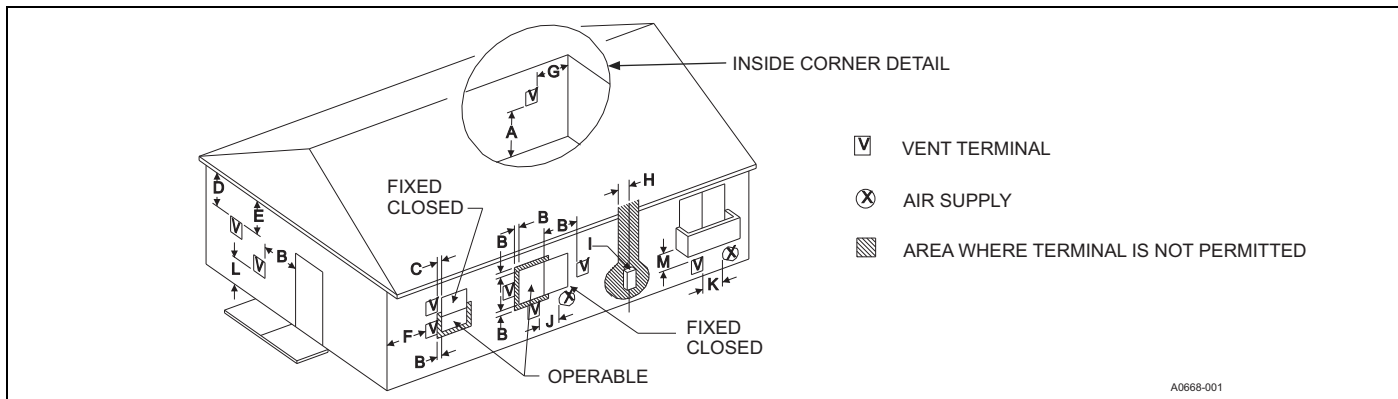
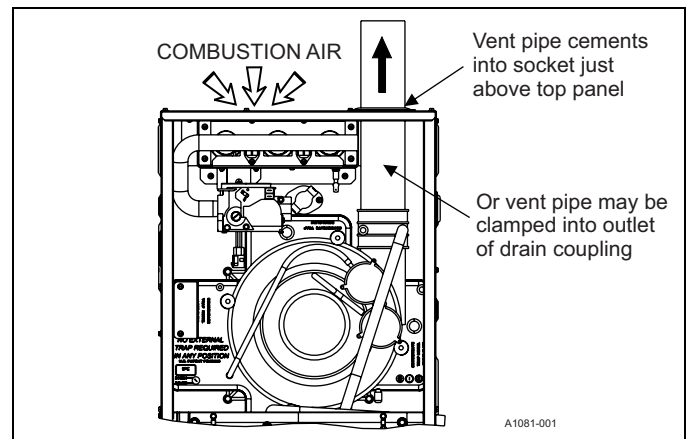

Figure 23: Home layout
Figure 31: Combustion airflow path through the furnace casing
- **Ambient combustion air:** Combustion air is supplied from the area surrounding the furnace through openings in the furnace casing. The combustion air and the vent pipes are not terminated in the same atmospheric zone. See Figure 23 for vent terminations. See the Ambient Combustion Air Supply section for correct installation. See Figure 31.